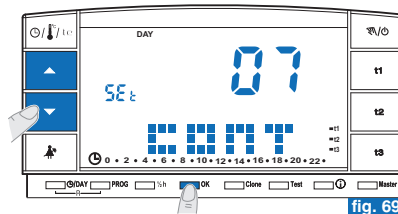
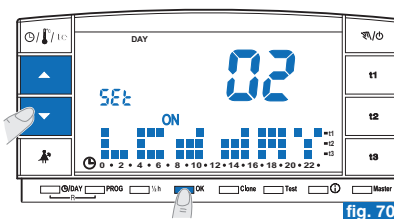
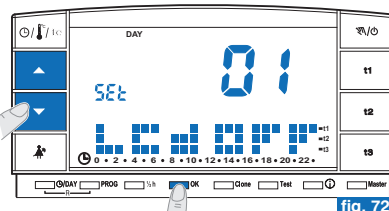

fig. 69
fig. 70
fig. 72
- Change the selected contrast value using **▲▼**. The value changes by 1 point every time the key is pressed (example in fig. 69).
- From the display contrast screen (example in fig. 69) press ▲▼ to view level **"02" LCd dAY** (example in fig. 70).
- From the display contrast screen (example in fig. 69) press ▲▼ view level **"01" LCd OFF** (example in fig. 72).